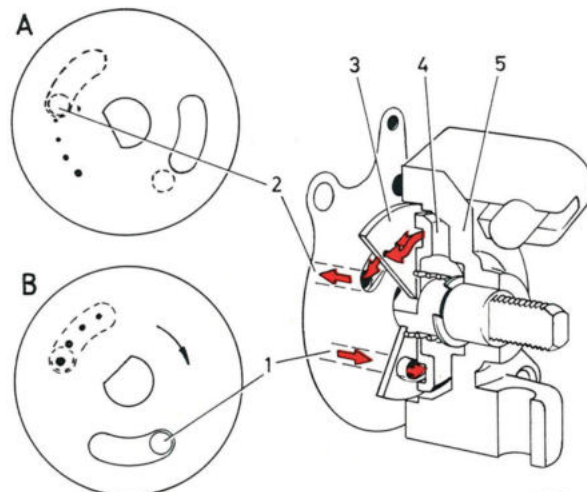

Fig. 2-76. Cold-start device
To facilitate starting during cold weather, the carburetor is provided with a cold start device (Figs. 2-76 and 2-77).
The cold start device consists of a choke lever (3, Fig. 2-76) which is provided with four calibrated holes and an elongated opening as well as a channeled disc (4) mounted on a spindle which is operated by the choke control. On the same spindle, outside the housing (5), there is a cam disc (9, Fig. 2-69) with connection for the choke control pull wire. When the cold start device is engaged, the valve disc turns and this links up the channel, (1, Fig. 2-76) from the float chamber via one or several of the calibrated holes to the channel on the other side of the valve disc and further through the drilling in the channel (2), which terminates in the venturi between the vacuum plunger and choke flap. By means of this link-up the engine receives extra fuel (richer mixture) to facilitate cold starting. At the same time, a little extra air is obtained by